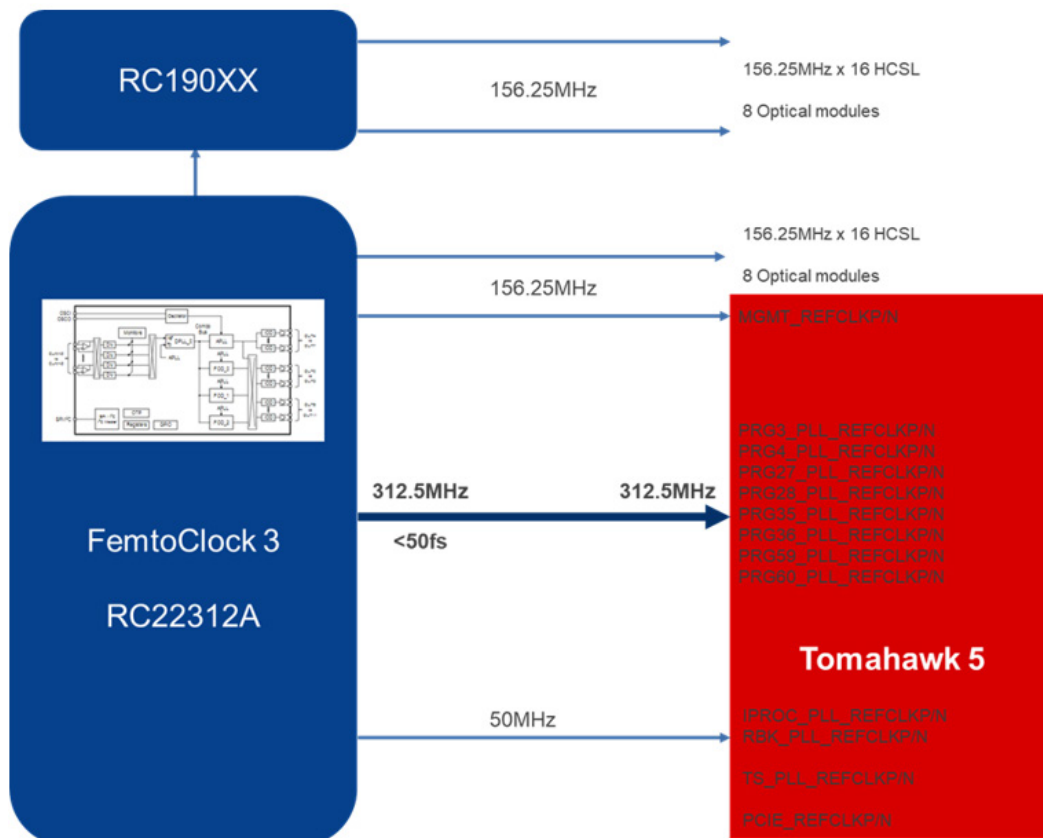

Figure 1. Renesas FC3 with Broadcom TH5 Reference Design
- Figure 1. Renesas FC3 with Broadcom TH5 Reference Design2
Using the RC22312A synthesizer, one such application would be to provide clean clocks for a Broadcom Ethernet Switch such as the Tomahawk 5 (TH5) BCM78900 series of devices (see Figure 1).